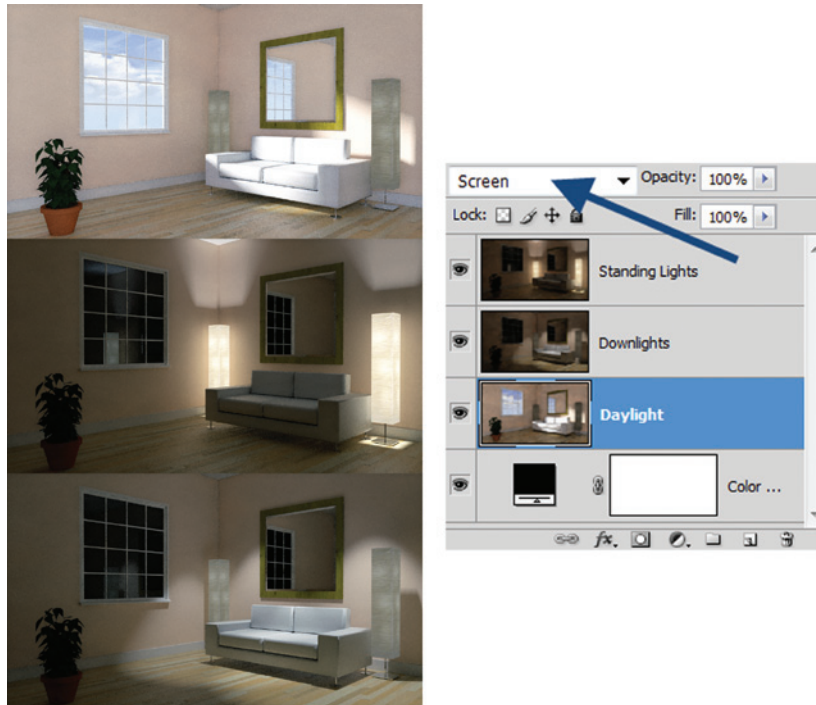

Figure 5.61: Three renderings with different lights are combined in Photoshop using “screen” layer blending
1. Render the same scene with different light groups enabled for each rendering. The left-hand image in **Figure 5.61** shows the three base renderings with (1) only daylight, (2) only the floor lights, and (3) only the downlights. It should be easy to disable lights individually or in groups in your rendering software. If that doesn't work, place all similar lights on their own layer and then enable only the appropriate layer before you do the renderings.
2. Load the rendered images into your photo-editing software’s layers (**Figure 5.61** shows this for Photoshop).
Figure 5.62 shows two resulting images that use a combination of the three base images from **Figure 5.61**.